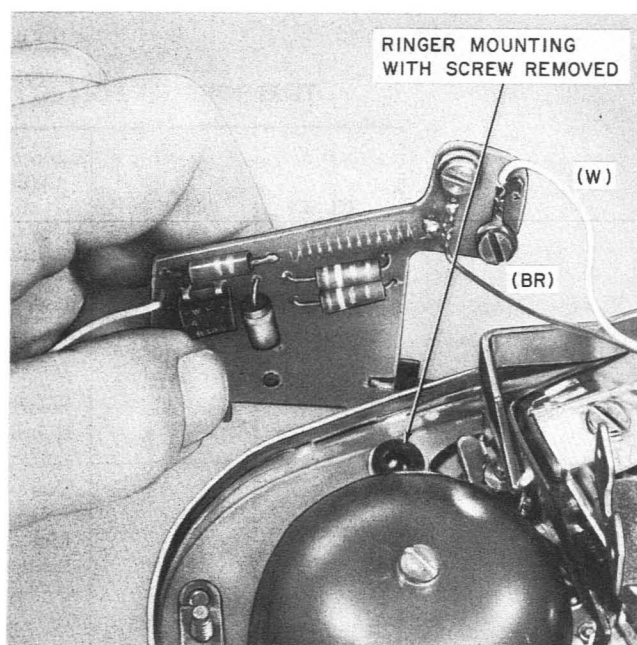

Fig. 12—Polarity Guard (840364426) Being Installed on Ringer Mounting
- (1) Remove housing from telephone set base.
- (2) Remove ringer mounting screw (Fig. 12).
- (3) Remove dial from dial mounting bracket.
- (4) Connect polarity guard in accordance with connections shown in Table D.
- (5) Using screws provided in kit of parts secure polarity guard (Fig. 12 and 13) using ringer mounting hole vacated in Step (2).